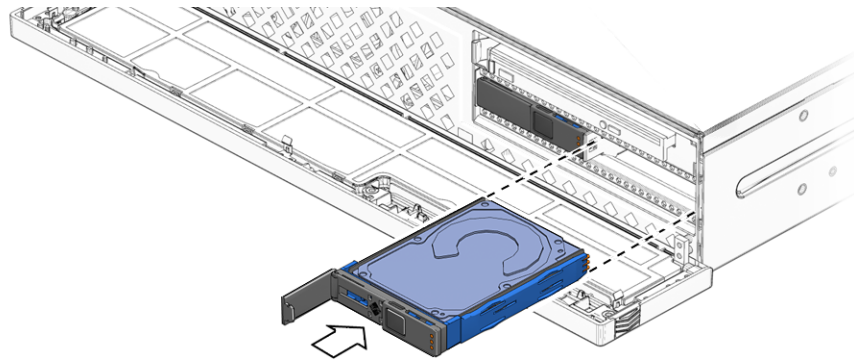

FIGURE 3-5 Installing the Hard Drive
- 3. Slide the drive into the bay until it is fully seated (FIGURE 3-5).**